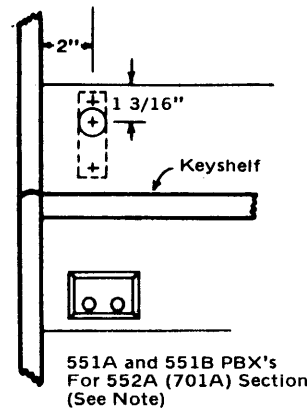

Fig. 1
3.01 As shown in Figs. 1 to 4, inclusive, the location of the 3/8" hole for the buzzer shaft and the position for mounting the 8A buzzer is indicated for each of the various P.B.X.'s.